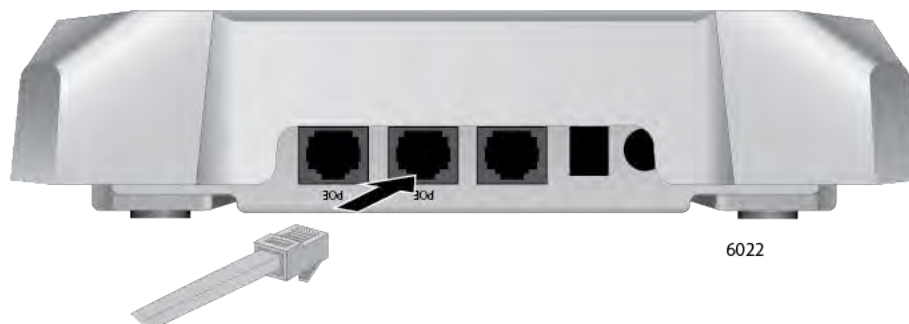

Figure 22. Connecting an Ethernet Cable to the LAN1 Port
1. To cable LAN1 port, connect an Ethernet cable into the port. The cable requirements are in “Cable Requirements” on page 27. Refer to Figure 22.